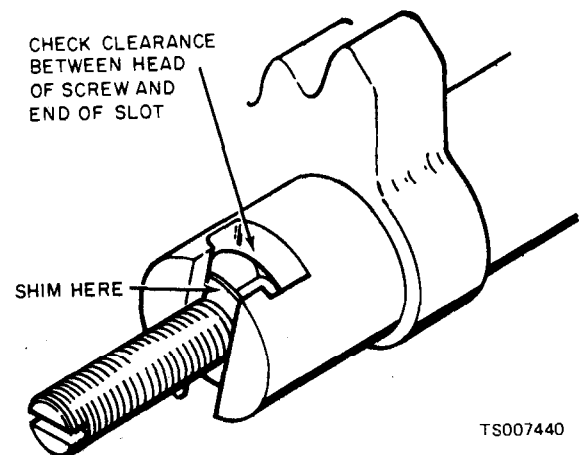

Figure 11-4. Lash Adjuster Clearance.
(1) Wrap wormshaft (stub shaft) serrations with plastic (electrician's) tape to prevent cutting seal lip during shaft installation.
(2) With wormshaft seal, bearings and bearing cups installed and ball nut assembly installed on wormshaft, slip upper ball bearing over wormshaft and insert wormshaft and nut assembly into housing, feeding end of shaft through upper ball bearing cup and seal.
(3) Position the lash adjuster with shim in the slotted end of output shaft. Check the end clearance, which should not be greater than .002 inch. If clearance is greater than .002 inch, a steering gear lash adjuster shim unit is available. It contains four shims: .063 inch, .065 inch, .067 inch and .069 inch thick. See figure 11-4.